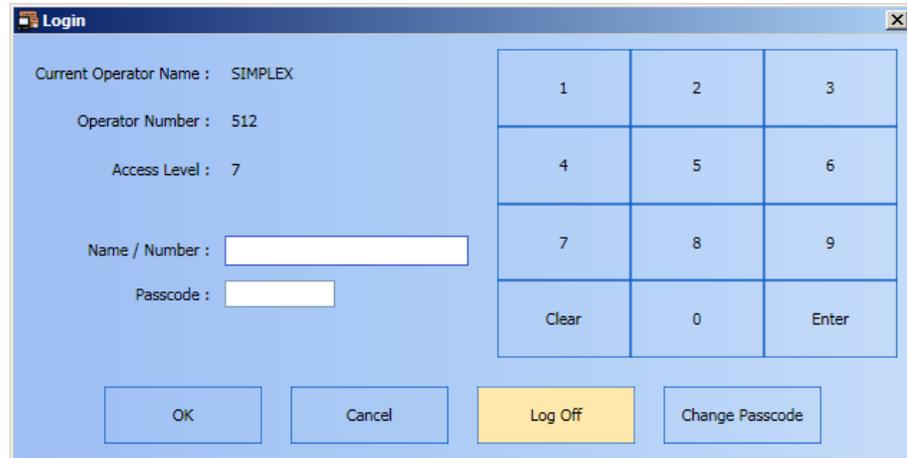

Figure 7-4 Login Dialog Box, Log Off
1. While you are logged in, click on **Login** in the **Utilities** toolbar. The **Login** dialog box appears, as shown in Figure 7-4.